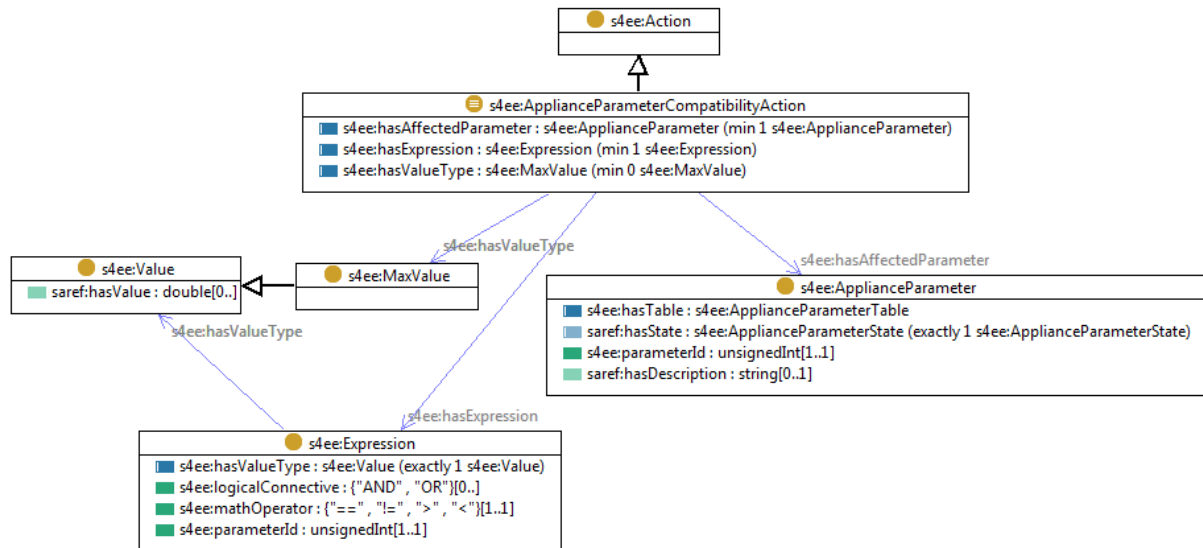

Figure 11 – The `s4ee:ApplianceCompatibilityAction` class and its properties
- It has a list of zero or more actions to be executed in case of incompatibility with other parameters (`s4ee:ApplianceParameterCompatibilityAction` class in Figure 11).